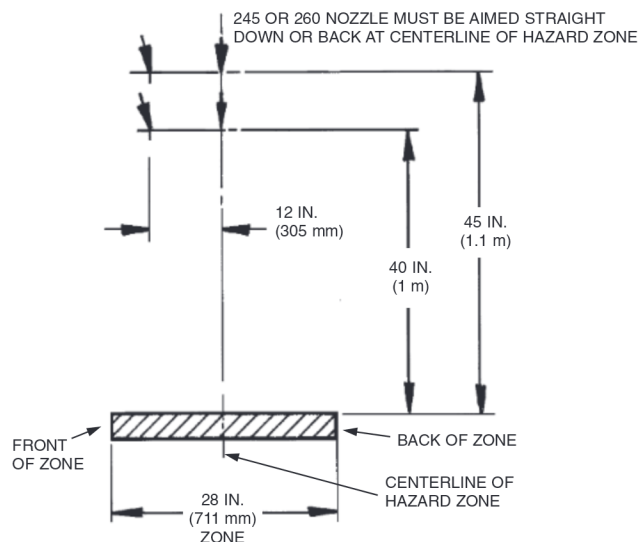

FIGURE 74
3. The overlapping appliance nozzles must be located 40 in. to 45 in. (1 m to 1.1 m) above the top surface of the protected appliances. See Figure 74.
4. The overlapping appliance nozzles must be located 0 in. to 12 in. (0 mm to 305 mm) forward of the centerline or aimline of the selected hazard zone. See Figure 74.